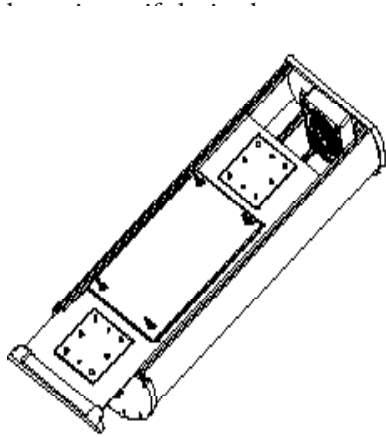
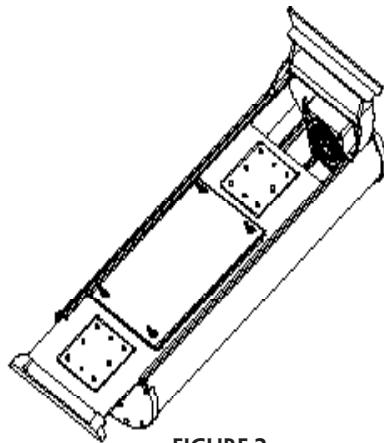
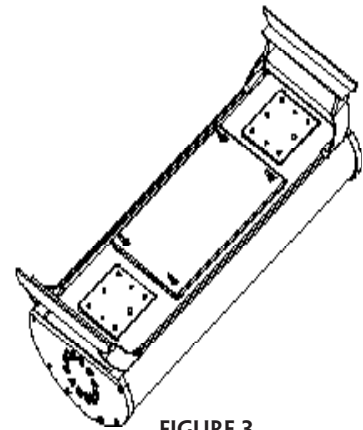

FIGURE 1
FIGURE 2
FIGURE 3
1. Ensure power is turned off from fixture. Slide bottom cover approximately 2" out (FIG. 1) and slide mounting legs into outer track (FIG. 2). Slide bottom cover back in place (FIG. 3).